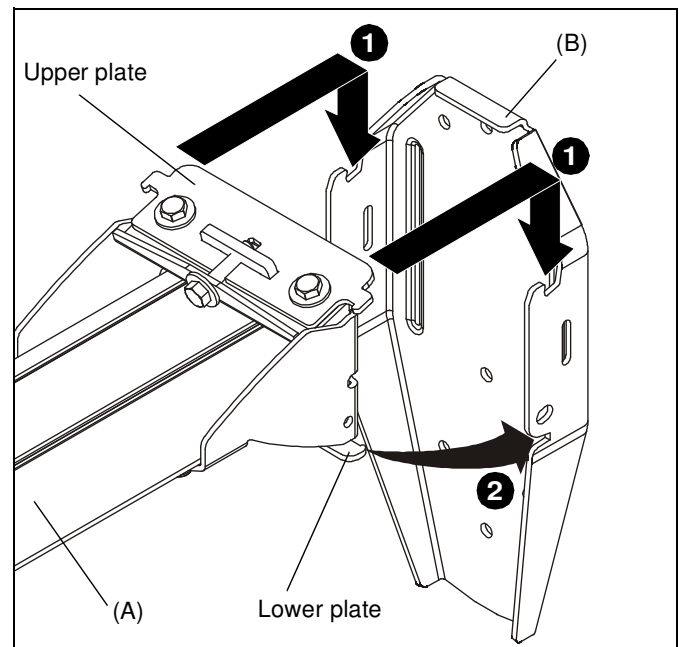

Figure 10
1. Lift WM1XXS assembly (A) up to wall bracket (B) and hook upper plate over upper notches on bracket. (See Figure 10)
2. Slide lower plate into lower notches on bracket. (See Figure 10)